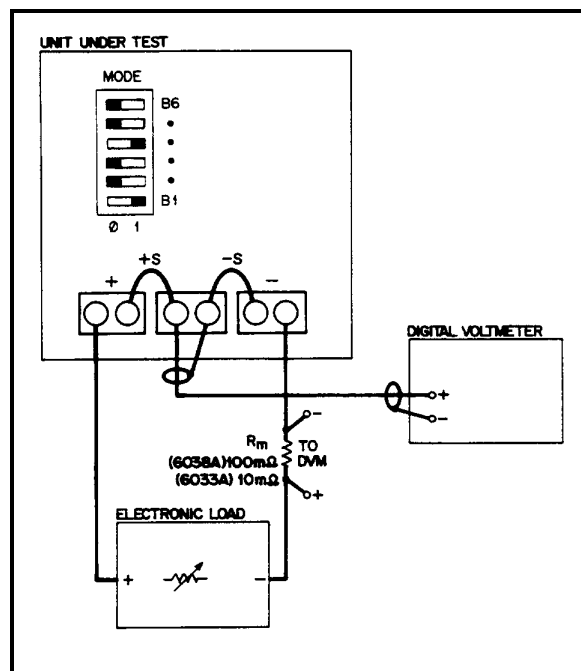

Figure 2-5. Basic Test Setup
- a. Connect the test equipment as shown in Figure 2-5. Operate the load in constant resistance mode (Amps/Volt) and set resistance to maximum.
Use the equipment setup of Figure 2-5 to display output voltage transients while switching the load between 10% with the output set at:
- a. Connect the test equipment as shown in Figure 2-5. Operate the load in constant-current mode and set for minimum current.
- a. Connect test setup shown in Figure 2-5, except replace the load with a short circuit.